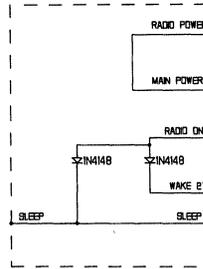

Fig. 16a RADIO SWITCHING BY BIAS CHANGE
- Option 1(Fig.16A, 16B) Direct audio amplifier control (no active components)